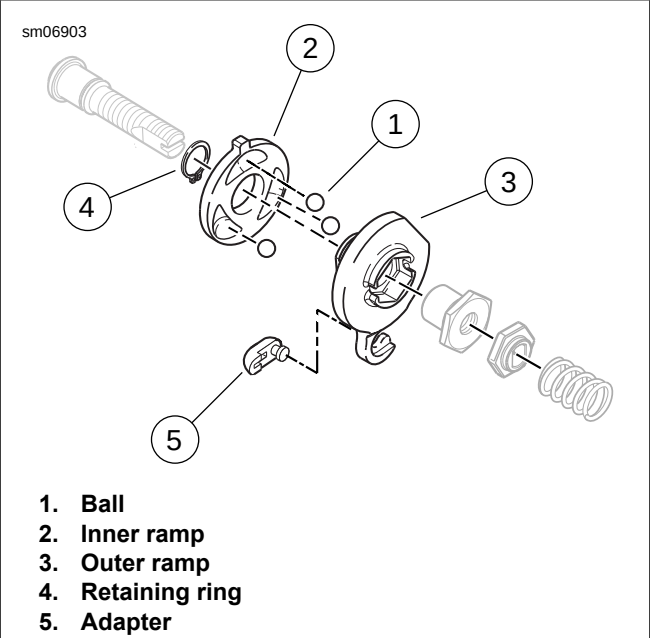

Figure 5-6. Clutch Release Ramp
2. See Figure 5-6. Inspect three balls (1) and ball socket surfaces of inner ramp (2) and outer ramp (3). Replace parts as necessary.
- d. Install **new** retaining ring (4) in groove of outer ramp hub.
- a. Fit adapter (5) over clutch cable end with the rounded side inboard, the ramp connector button outboard.